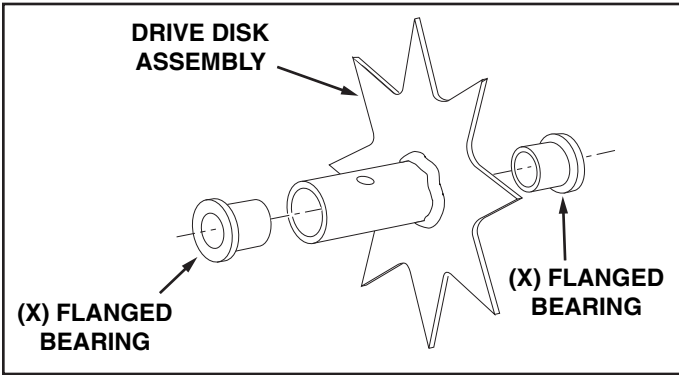

FIGURE 11
29. Push two flange bearings into each of the drive disk assemblies. See figure 11.